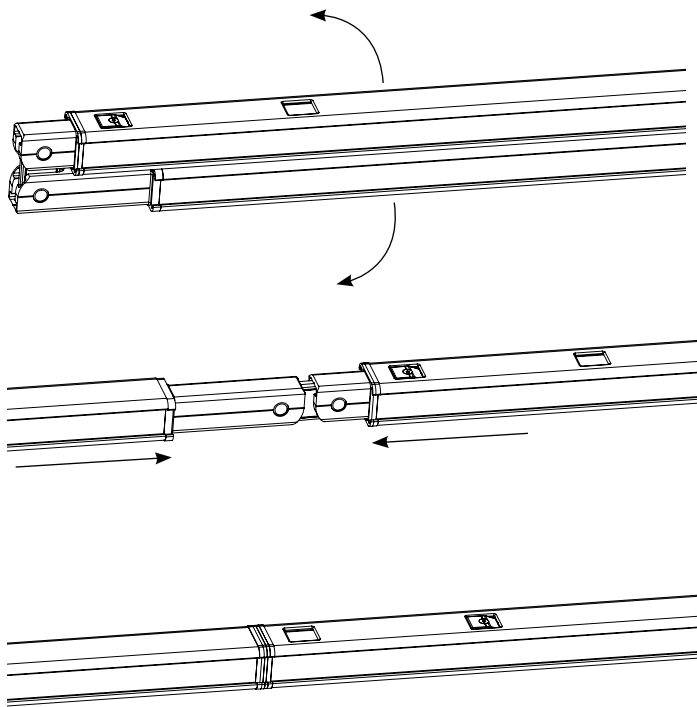

Figure 2
1. Unfold the four sections of the Fast-Fold NXT frame, lock all internal sliding hinges and lay face up on the floor. See Figure 2.